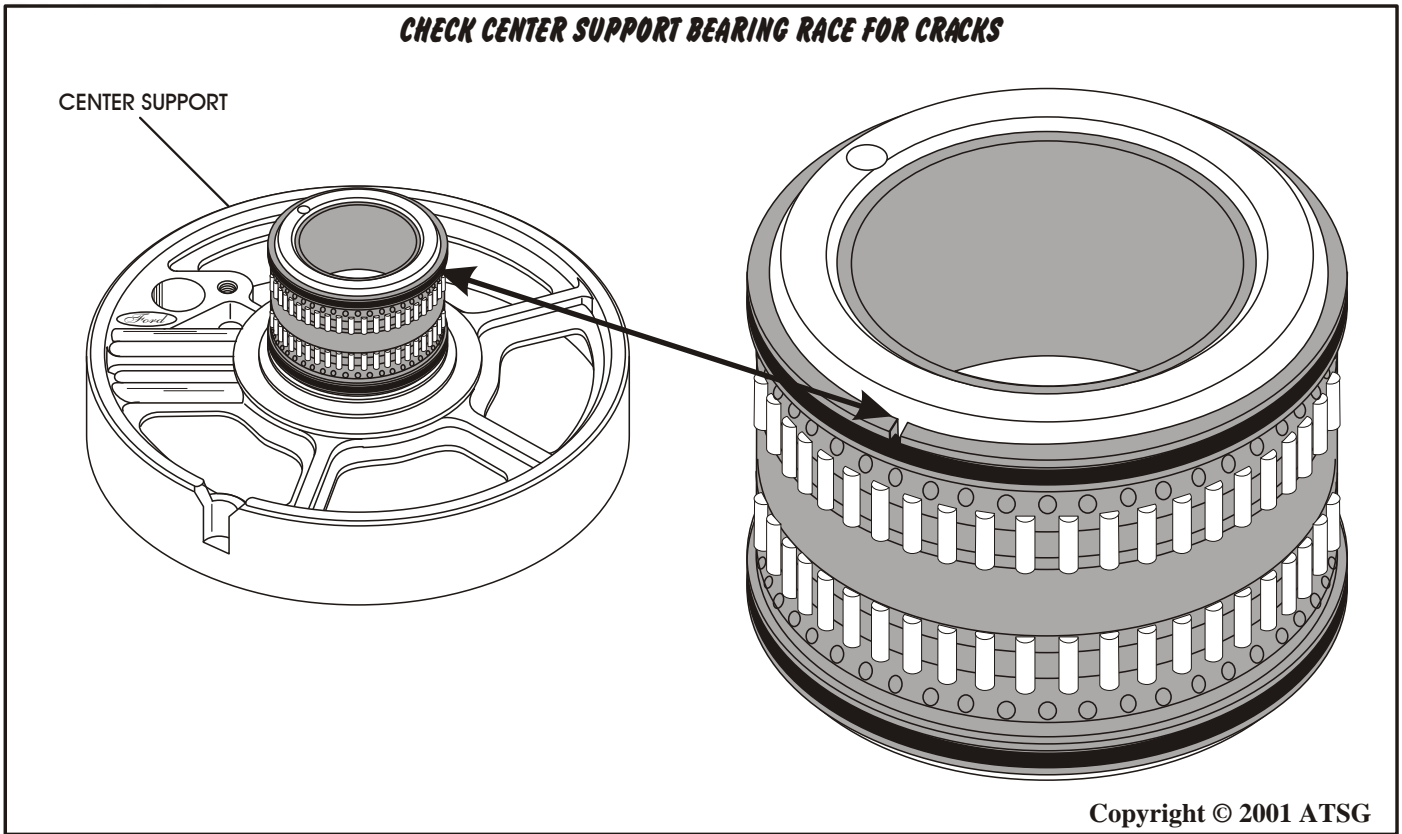

Figure 91
2. Inspect bearing race at the top of the bearing, as shown in Figure 91, for any visible cracks.